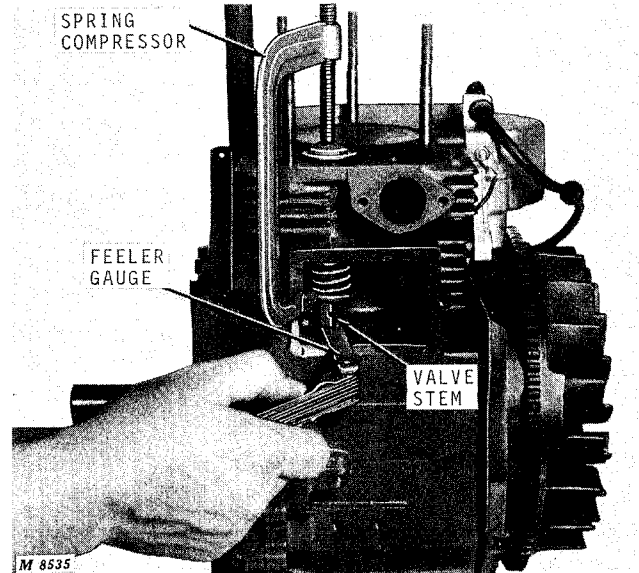

Fig. 22-Checking Valve-to-Lifter Clearance
2. Insert valves in their guides and hold valves firmly on seats with either your fingers or a compressor as shown in Figure 22.
3. Check clearance between bottom of each valve stem and its lifter with a feeler gauge, Figure 22. Refer to "Specifications," page 30-11, for proper valve clearance. Grind off tip of valve stem in a valve resurfacing machine set to grind a perfectly square face. Grind tip of stem until proper clearance is obtained.